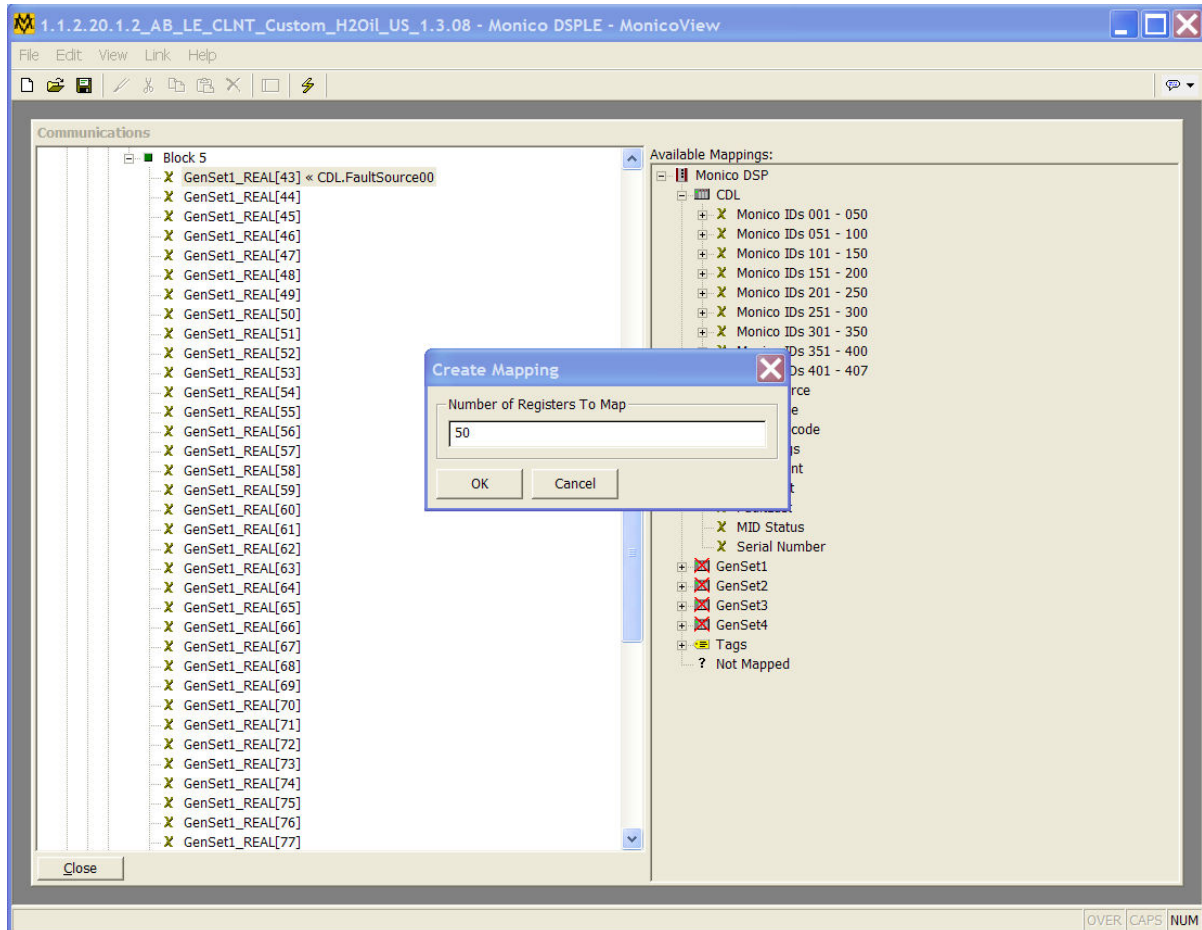

Figure 7.5 Number of Registers to Map Screen
4. Click OK and then it will ask you how many you want to create. This screen is shown in figure 7.5. If you want to capture the last five fault codes, then enter five. If you want the last 25 fault codes, then enter 25.